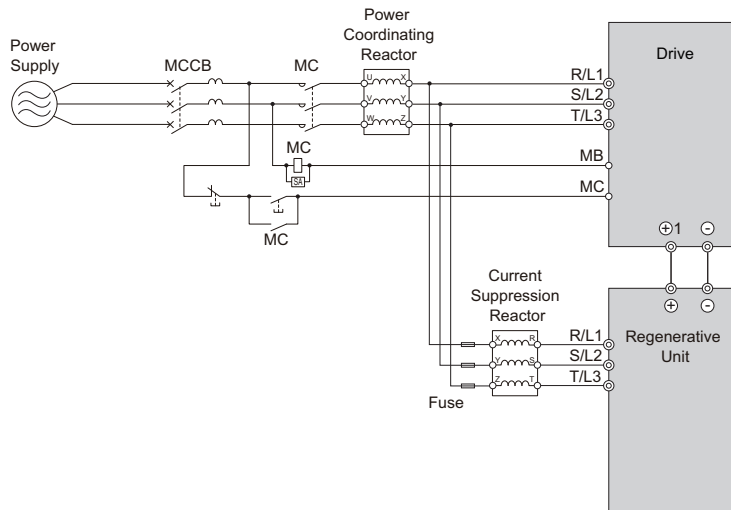

Figure 7.2 Power Supply Interrupt Wiring (Example)
- If several drives are connected to one MCCB or RCD that is shared with other equipment, use a sequence that shuts the power OFF when errors are output by using magnetic contactor (MC) as shown in *Figure 7.2*.